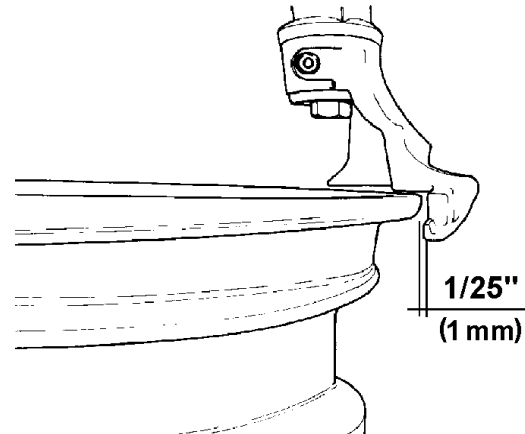

Fig.14
E. Gently position the mount/demount head in contact with rim edge, now manually push the lock lever up and lock it into place. The tool automatically moves vertically up and away from the rim edge. Turn the swing arm adjustment knob until the mount/demount head moves horizontally away from the rim flange by approximately 1/25" (1mm) (Fig.14): this is necessary to avoid any rim contact during the changing process.